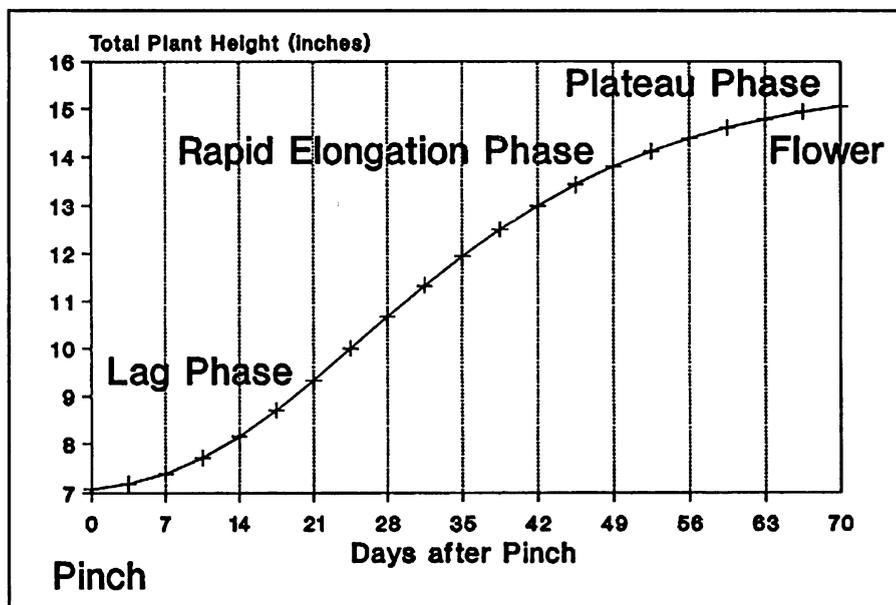

Figure 1. Sample stem elongation curve for poinsettias and chrysanthemums.
The stem elongation curve for poinsettias and mums has five parts (see Figure 1). The curve (1) starts at pinch, (2) has an initial lag phase, (3) followed by a rapid elongation phase, (4) a terminal plateau phase, and (5) ends at flowering.